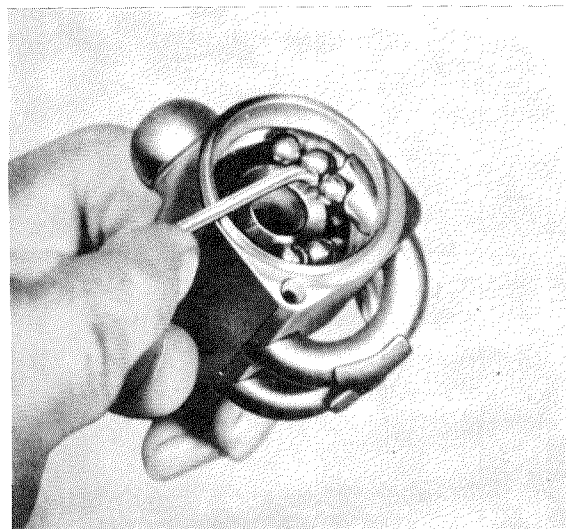

Fig. 46 — 4/8
- Now fill the upper ball-race with balls. When doing this, turn the steering worm back and forth and use a suitable bent, blunt wire to insert the balls in the ball guide tube (Fig. 46 — 4/8).